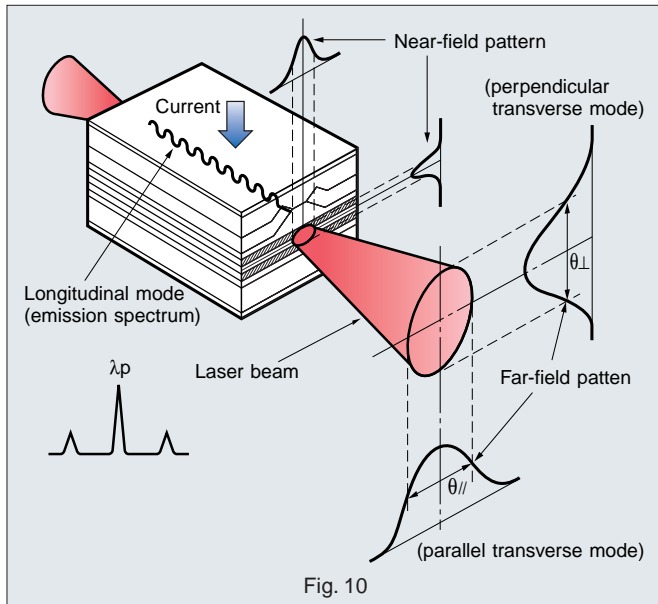

Fig. 10
■ **Optical characteristics** (Fig. 10)